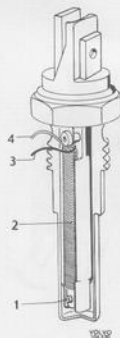

Fig. 2-162. Thermal timer
When the engine is cold (below $+35^{\circ}\text{C}=95^{\circ}\text{F}$) the contacts (1, Fig. 2-162) are closed. When the starter motor is operating, current flows from it to the cold start valve and via cable (4) and contacts (1) to ground. Current at the same time flows from